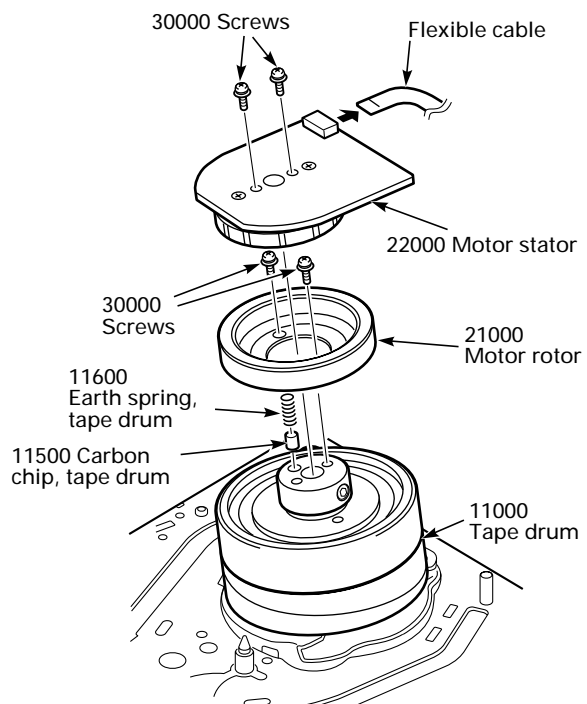

Fig. 8.37
- Undo two screws (Pos. 30000), remove the motor stator (Pos. 22000) and the tape drum earth spring (Pos. 11600, Fig. 8.37).
- When turning the mechanism upside down now, the carbon chip (Pos. 11500) will fall out (Fig. 8.37).
- Undo two screws (Pos. 30000) and remove the motor rotor (Pos. 21000, Fig. 8.37).